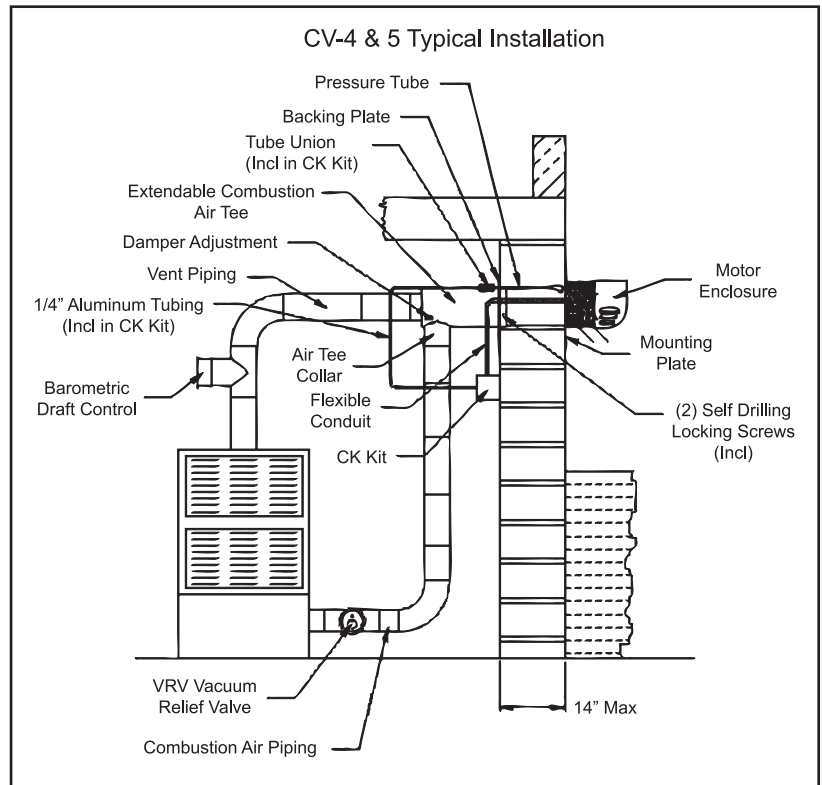

Figure 9
If the wall is thicker than 11", the CK kit tubing must be attached to the air pressure sensing tube prior to installation, using the included tube union fitting. (See Figure 9)
1. For appliances constructed with a combustion air inlet connection that do not come equipped with means of either (a) providing the burner with an alternate source of combustion air in the event of blockage, or (b) safely preventing combustion in the event of a blockage: Install a Field Controls Vacuum Relief Valve, model VRV (sold separately), in the combustion air piping from the air tee collar to the appliance inlet connection, following the installation instructions included with the VRV. (See Figure 9) This will allow combustion air to be drawn from within the structure (or a safe shutdown) if the vent inlet becomes blocked.